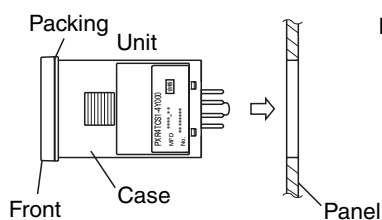

Figure 1
- (1) As shown in Figure 1, fit a packing to the case of the unit and then insert it in the panel.